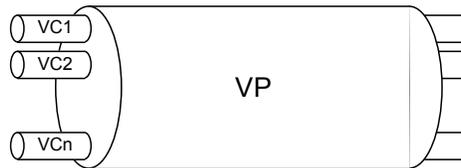

Figure 5: Virtual channels and virtual path
ATM circuits are of two types: virtual paths (VP) and virtual channels (VC). A virtual path is a bundle of virtual channels (Figure 5.).